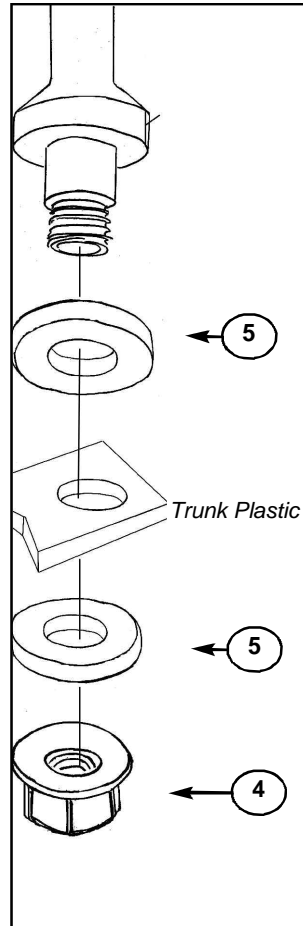

Figure 1.
2. Install one rubber washer .50 ID onto the threaded leg of the rack. Figure 1.